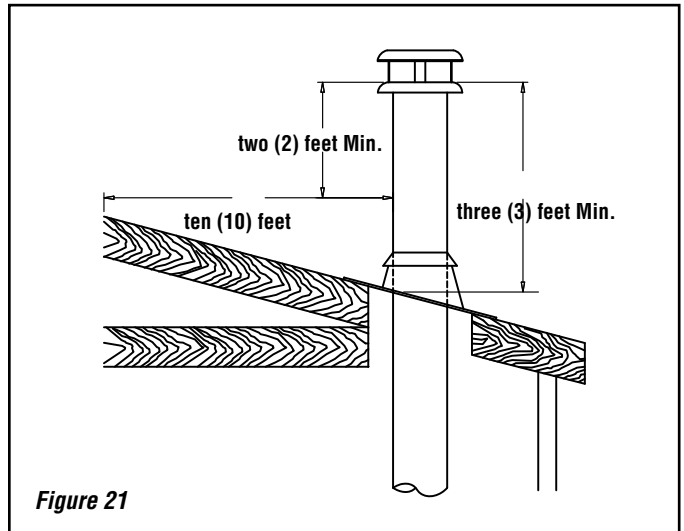

Figure 21
6. The chimney must extend at least 3 feet (915 mm) above its point of contact with the roof and at least 2 feet (610 mm) higher than any wall, roof or building within 10 feet (3m) of it (see **Figure 21**).